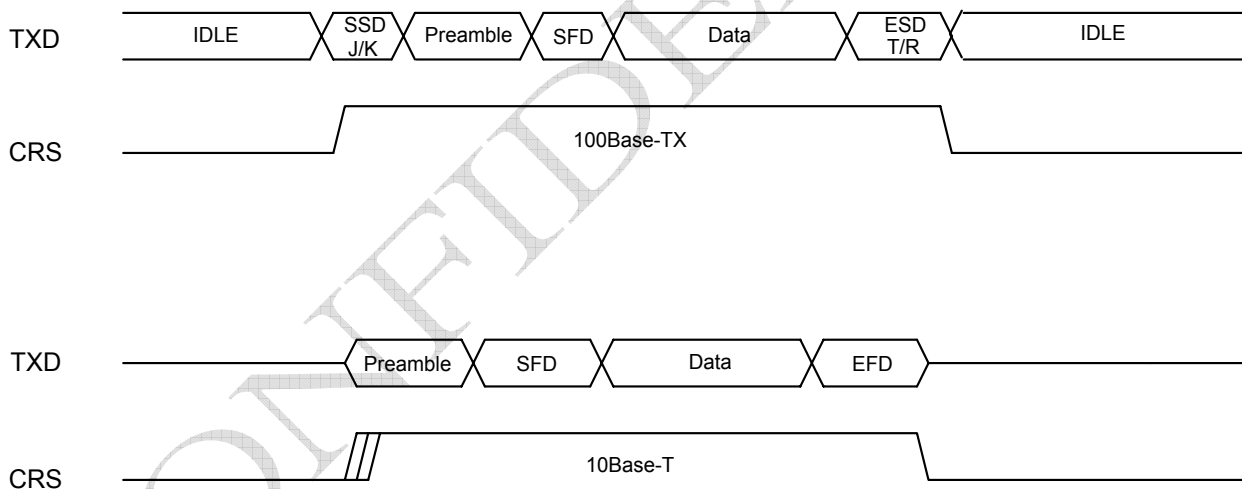

Figure 7-2
- CRS (carrier sense) is asserted by the PHY when either the transmit or receive medium is non-idle, and de-asserted by the PHY when the transmit and receive medium are idle. Figure 7-2 depicts the behavior of CRS during 10Base-T and 100Base-TX transmission.